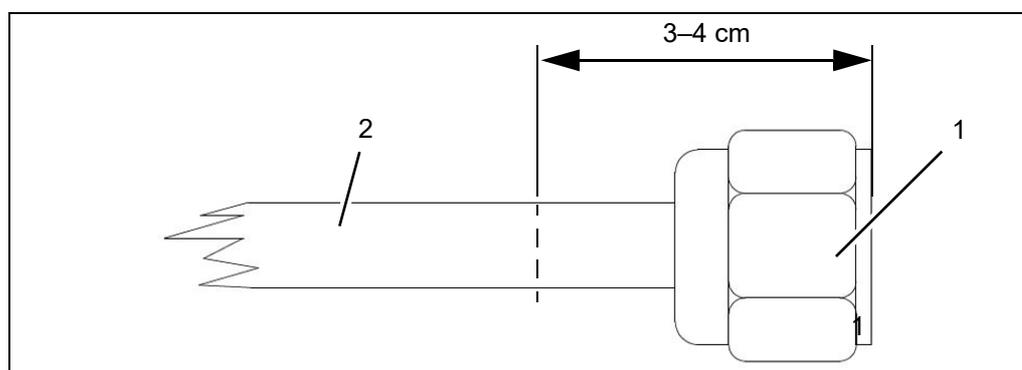

Fig. 9-8 Severing the copper tube
1. Unscrew the screwing (1, fig. 9-8) of the copper tube (2) from the instrument.